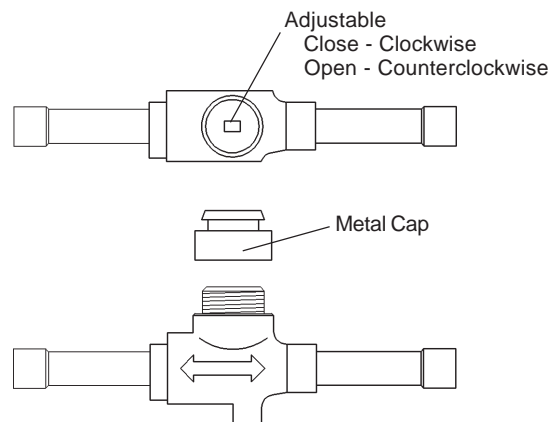

Fig. 5
- 9) Remove the Metal Cap from the Ball Valve, and open the valve. See Fig. 5.